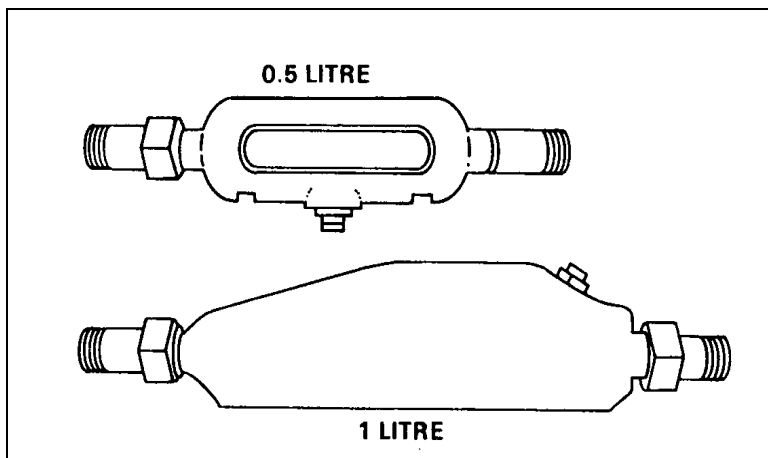

Fig 5-2 Air In Line Lubricator
8. **Air In Line Lubricator.** The air in line lubricator (Fig 5-2) must be used with all compressor tools. It meters a supply of lubricating oil to the air motor of the tool.